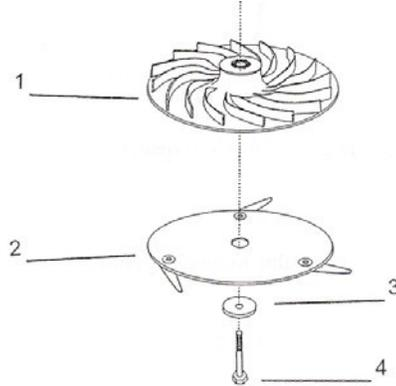

Figure 14
4. **To obtain a higher cut** remove the height adjustment spacer (s) from the impeller hub. Remount the cutter disc to obtain the highest cut - do not use any spacers. Install the flat washer and the Impeller retaining bolt. Tighten the bolt securely. (Fig 14)
- a. Remove the height adjustment spacer (s) from the impeller hub. (Fig 14)